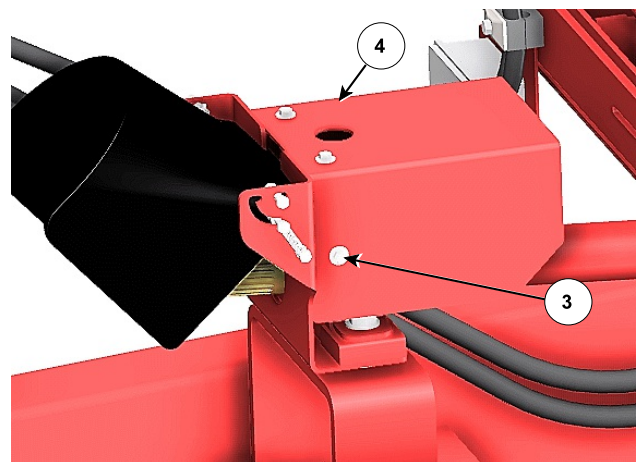

Figure 2: Remove the Rear Driveline Shield
3. Remove the fasteners (3) holding the rear driveline shield (4), see *Figure 2*.
- Discard the shield (4) and fasteners (3).